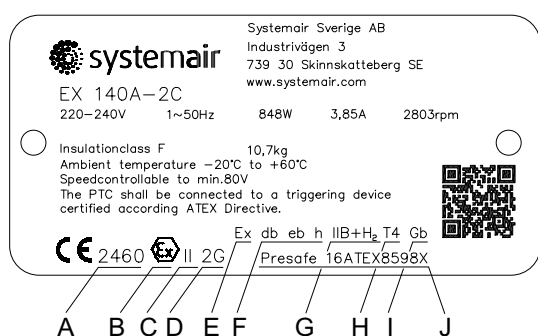

Fig. 4 Name plate
- Cable glands on the motor must have at least the same Ex class as the fan, see figure 4.